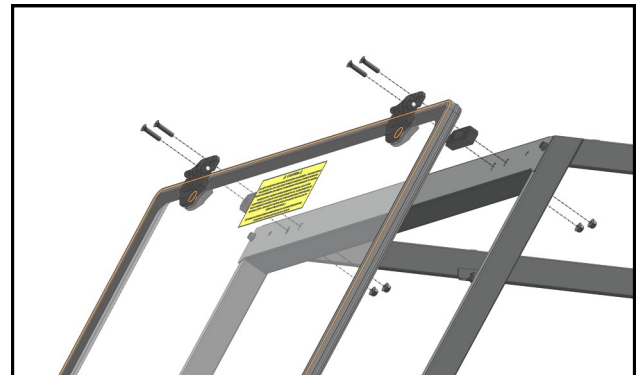

Fig. 7.1 (Windshield Hinges)
- 7.1** With assistance, set the windshield up to the A-pillars and secure it to the roof using the hinge spacers and hardware. See Figure 7.1.